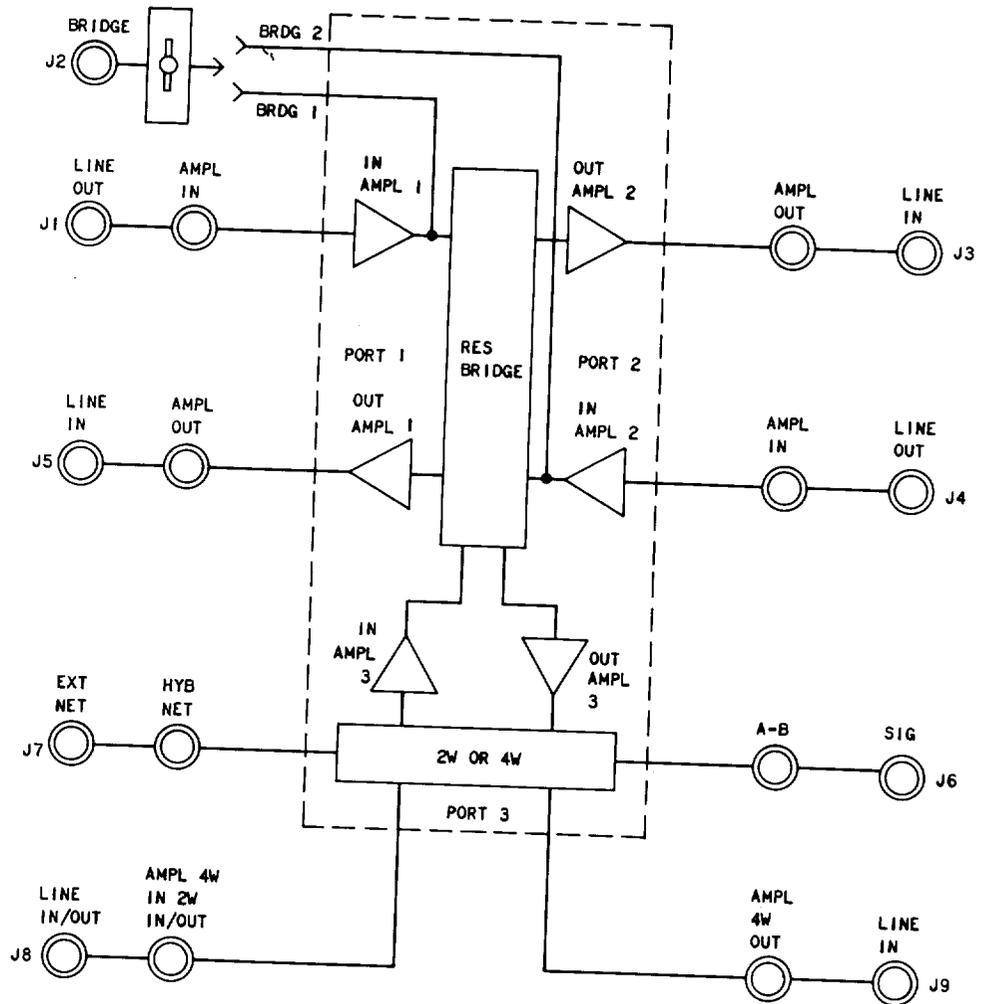

Fig. 3—Block Diagram of the Test Extender
3.01 Each of the three ports of the bridging repeater is terminated in double jacks located on the test extender (Fig. 3). One jack of each pair faces the cable facility and the other jack faces the repeater. When a plug is inserted into a jack, the circuit is opened to the other jack. This allows tests to be made on the cable facility without the repeater bridged on the circuit; this arrangement also allows testing of each of the repeater ports without having the cable bridged on during repeater tests.